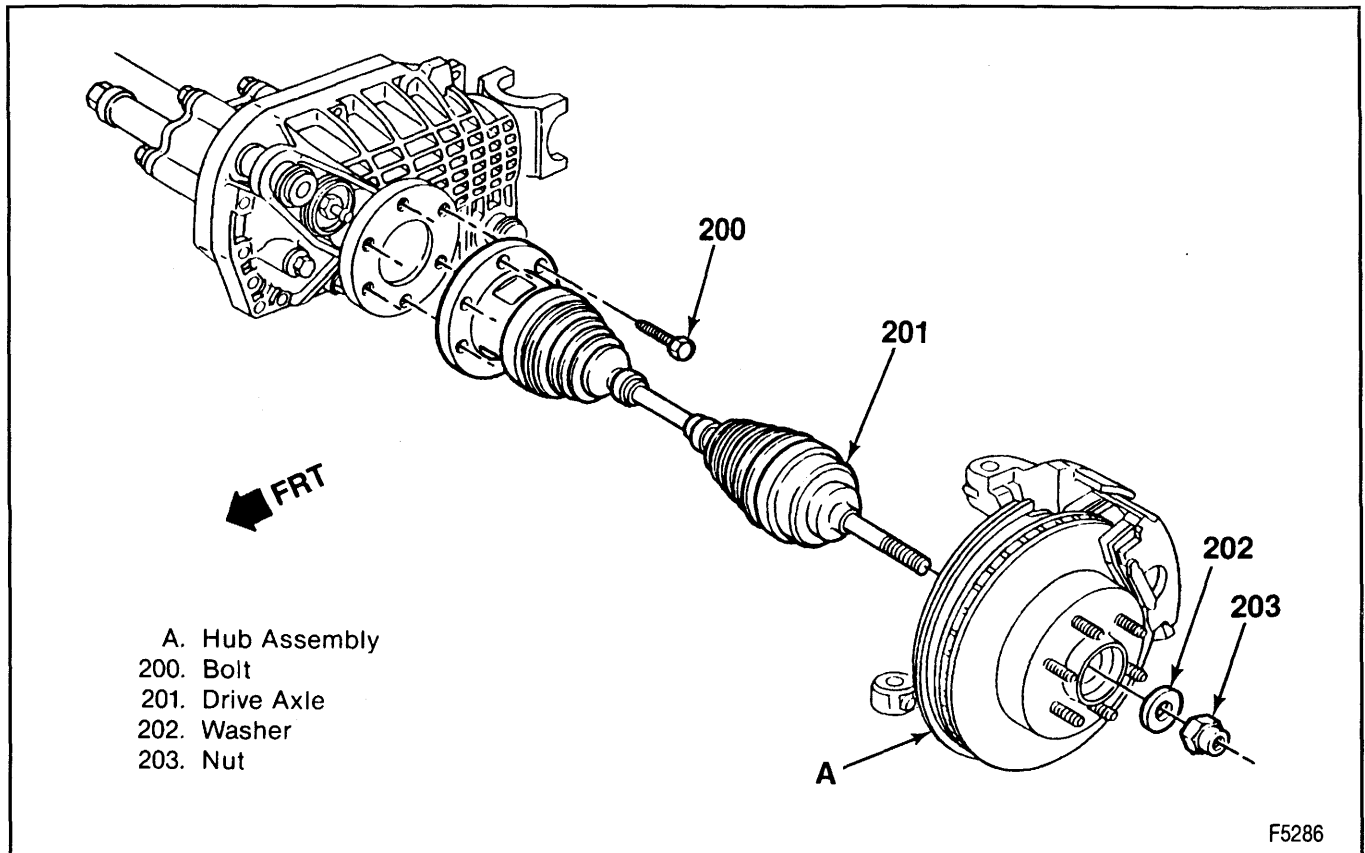

Figure 5—Drive Axle
↔ Remove or Disconnect (Figures 5 through 12)
2. Drive axle hub nut (203) and washer (202) (figure 5).
- Loosen but do not remove at this time 6 bolts (200) securing inboard C/V joint drive flange to the output shaft companion flange (figure 5).
14. Six bolts from inboard joint flange (figure 5).
Install or Connect (Figures 5 through 12)